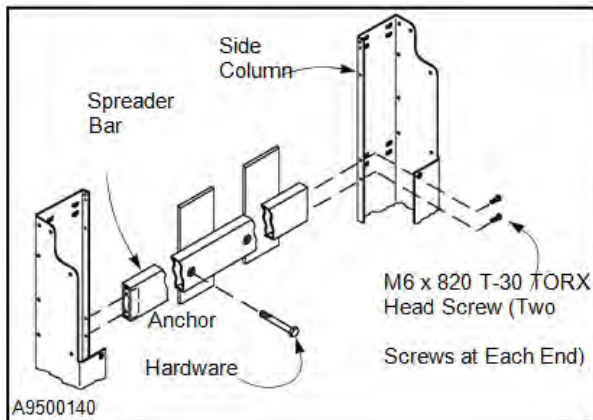

Figure 30
3. Inspect the hardware used to attach the spreader bar to the side columns. Tighten the hardware as required. Replace any missing or damaged hardware. (See Figure 30.)